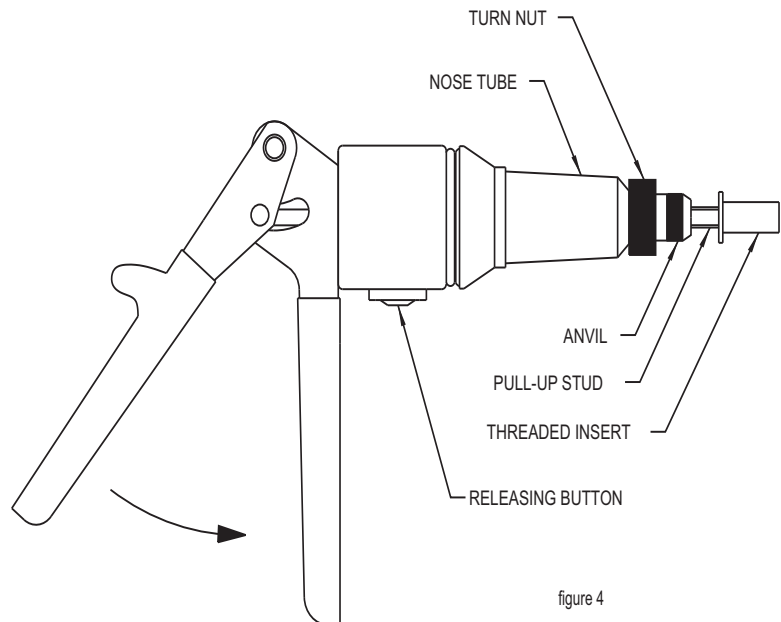

figure 4
1.) Rivet pintail is stuck in tool	<p>First Step: Lightly tap nose against a hard surface while after breaking squeezing HANDLES and pressing down the RELEASING BUTTON with tool pointing downward Pintail should then fall out, see fig. 4. If that does not work try Second Step.</p> <p>Second Step: (Use this only if first step does not work) Remove NOSE TUBE and JAW HOLDER (for help see figure 5) take out pintail and reassemble.</p>